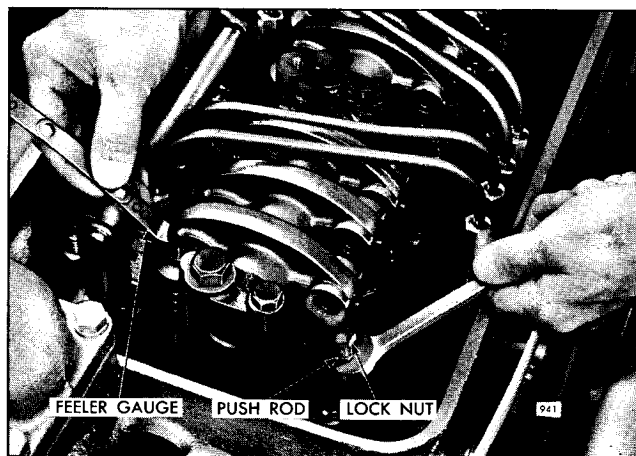

Fig. 1 - Adjusting Valve Clearance--
3. Loosen push rod lock nut, Fig. 1.